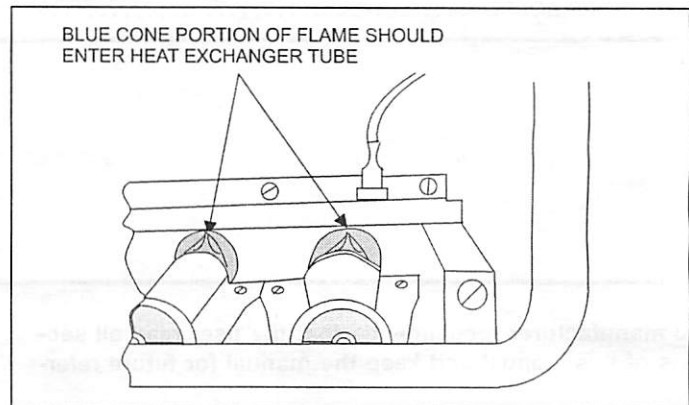

FIGURE 2: Burner Flame Drawing
6. Examine the burner flames to make sure they are in good adjustment. Refer to the pictorial sketch shown in Figure 2 as a comparison to the actual flame.